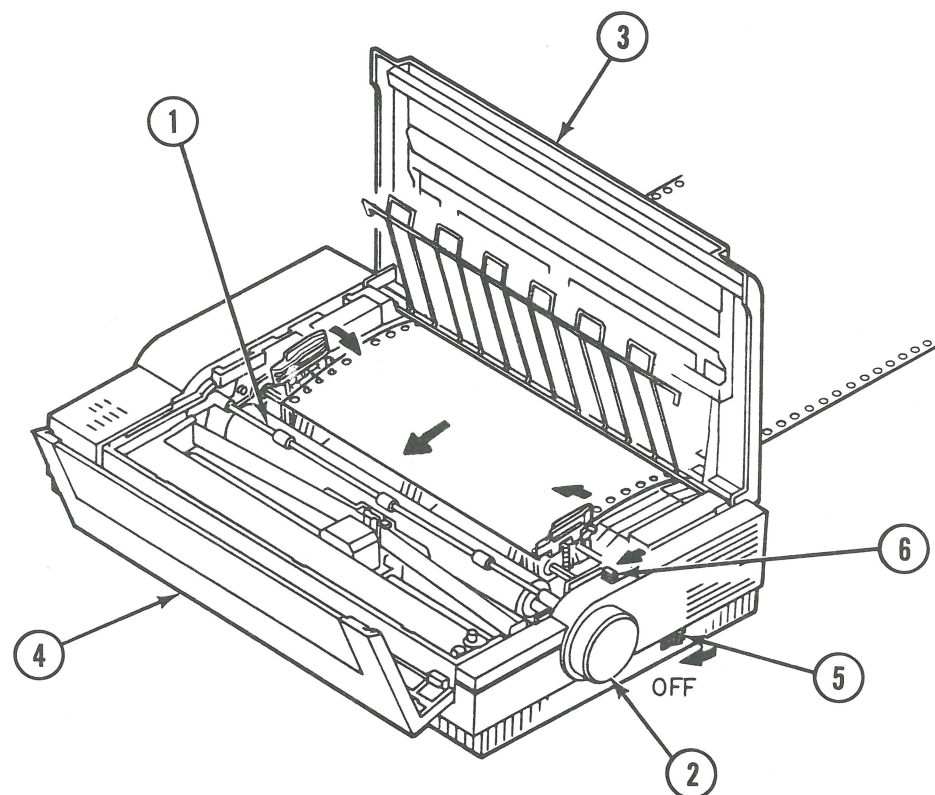

FIGURE 8
8. Rotate the platen knob (Figure 8, #2) until the next sheet of the fan-fold paper is in the print position.
9. Push the paper bail (Figure 8, #1) toward the back of the printer until it rests on the paper.
10. Close the rear cover (Figure 8, #3) and then the front cover (Figure 8, #4).
1. Make sure the printer is turned off (Figure 8, #5).
2. Check to be sure that the friction release lever (Figure 8, #6) is set to "tractor feed."
3. Turn the platen knob (Figure 8, #2) to back out the paper.